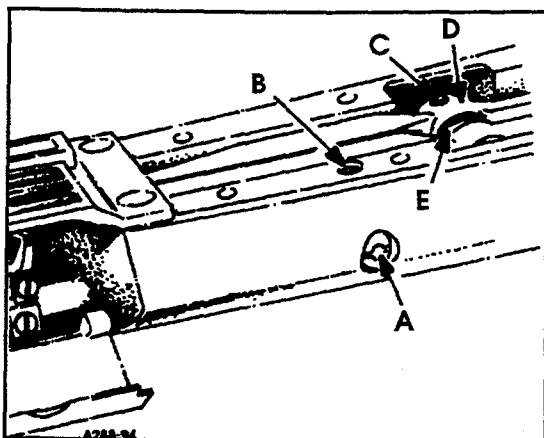
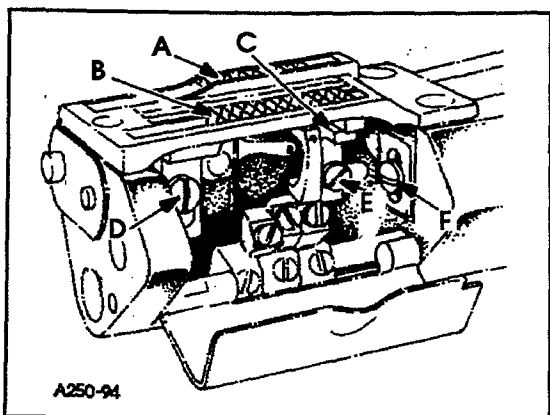

FIG. 10
FIG. 11
Before assembling the main and differential feed dogs, set the feed bar eccentric pin (A, Fig. 10) located in the left side near center of cylinder, so that the slot in the head is in a horizontal position. This assures a neutral position of eccentricity for the purpose of raising or lowering the height of the main and differential feed bars simultaneously. The feed bar pin is retained in position by set screw (B). Assemble differential feed dog (A, Fig. 11), main feed dog (B) and throat plate. Both the main and differential feed dogs can be individually adjusted to height. Main feed dog (B) at its highest position, should be set to project above the throat plate, slightly more than the depth of its teeth on Style 35800DLW and slightly more than the depth of its lower teeth on Styles 35800DWW, DWL. If adjustment is necessary loosen screw (D) and move feed dog (B) up or down to attain correct setting. Feed dog support (C) should support front of feed dog. If adjustment is necessary loosen screw (E) in feed dog support (C) and move as required. Retighten screw (E). The differential feed dog (A) may then be leveled with main feed dog (B). If adjustment is necessary loosen screw (F) and move feed dog up or down as required. Retighten screw (F).
NOTE: Should the main feed dog require repositioning due to contact with the throat plate in its forward or rearward travel, loosen set screw (C, Fig. 10) in main feed bar driving link (D), rotate main feed bar eccentric driving stud (E) as required. Driving stud (E) has a thin hexagon head with cutouts on two of the flats allowing movement by tapping with a sharp pointed tool, when wrench 21388AZ is not available. Whenever the main feed bar eccentric driving stud position has been changed, recheck rear needle guard setting, adjustment may be required. Retighten set screw (C). Position main feed dog support (C, Fig. 11) flush against bottom of main feed dog (B), tighten support screw (D) securely.